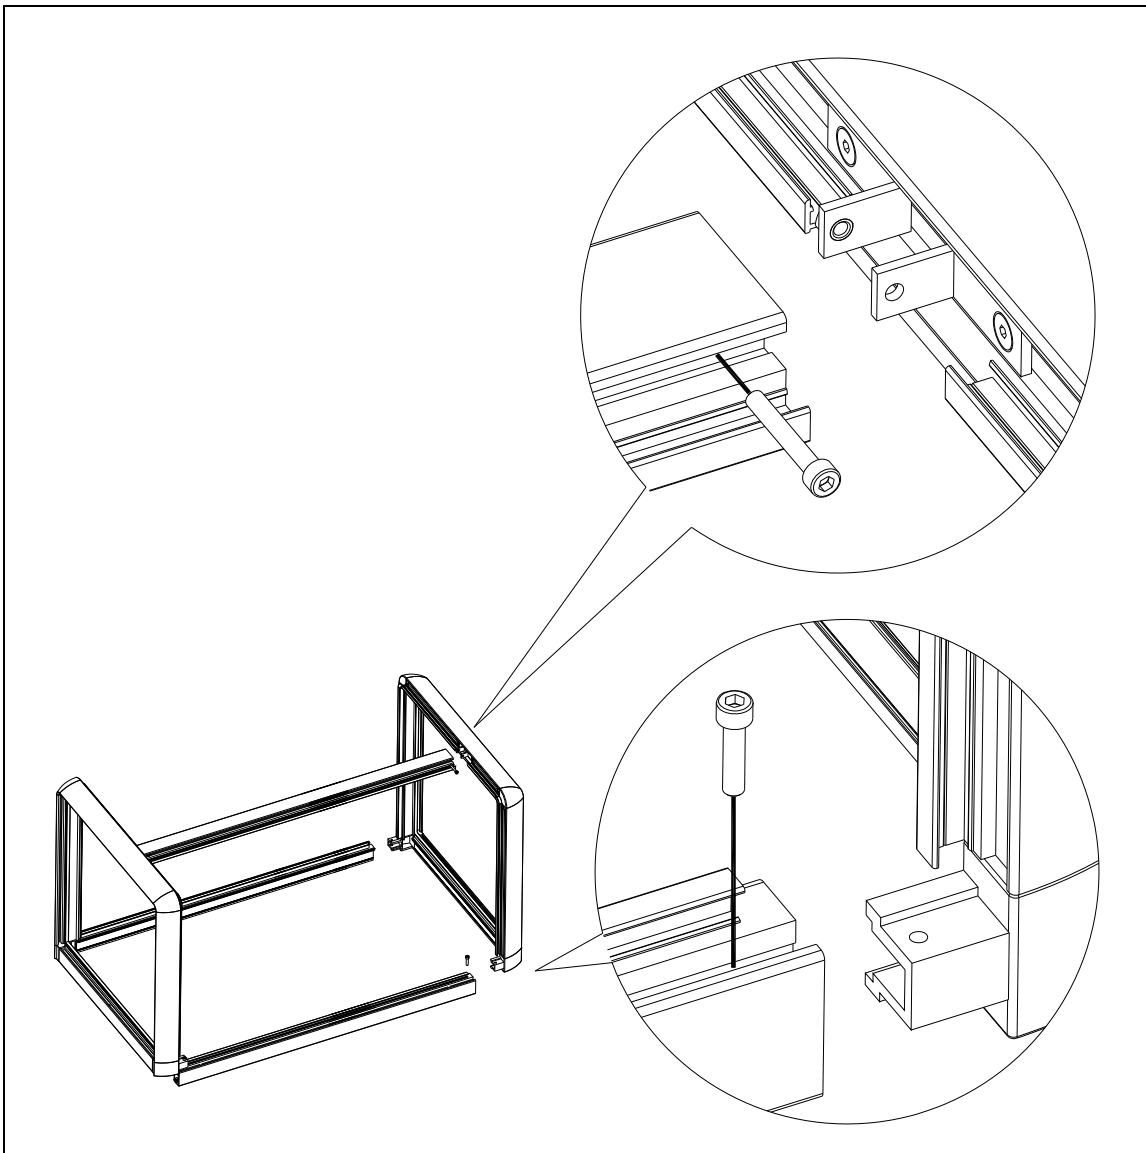

Figure 27: exploded view sound shield M-SQ8 and 10
- 2 The sound shield canopy can be disassembled according to exploded view below (figure 27).